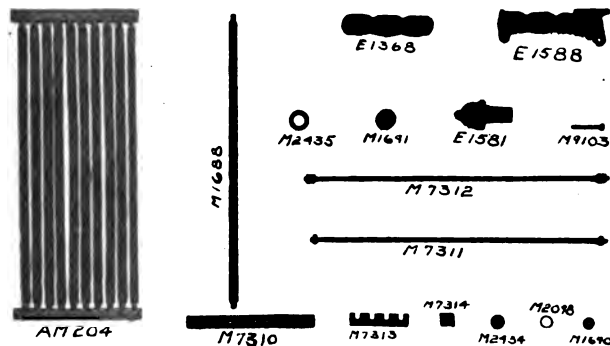

Fig. 29.
- 198 — The radiator is built up with twelve sections AM 204 as shown in Fig. 29, six sections being on each side of radiator manifolds E1368 and E1588. Ten finned tubes M1688 set in two section headers comprise a radiator section. Tie rods M7311 and M7312 hold the section AM204 and the section on the opposite side of the radiator manifolds in place. Fig. 29 shows a view of radiator parts.